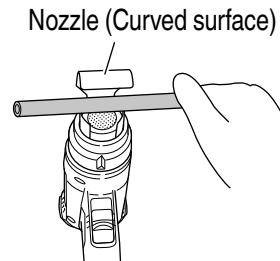

Fig. 18
4. Forming resin pipes (Fig. 18)